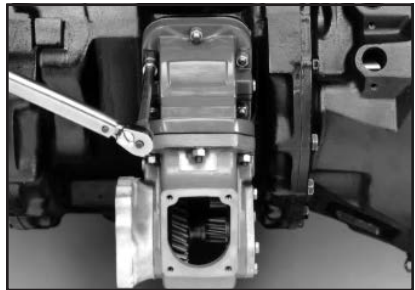

Fig.10
- 8-Bolt to 45-50 lbs-ft (6.22-6.91 kg.m.) (**Fig 10**)